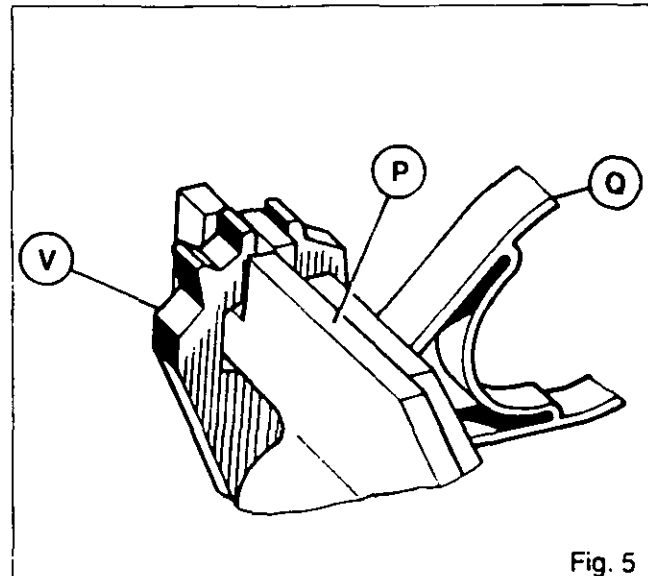

Fig. 5
If gear lever (12) is pushed, arm (36) engages in the 3rd/4th speed fork (Q) and moves with it lock (V), which then prevents movement by the 1st/2nd speed fork (P) (Fig. 5). 3rd gear is obtained by moving lever (12) back and 4th by moving it forward.